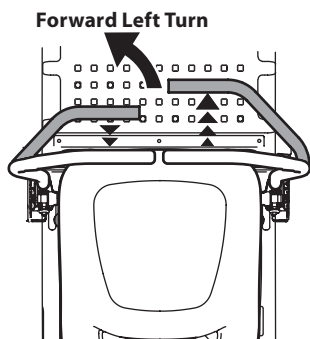

Figure 23
1. To turn to the left, move the left drive control lever rearward of the right drive control lever (Figure 23).